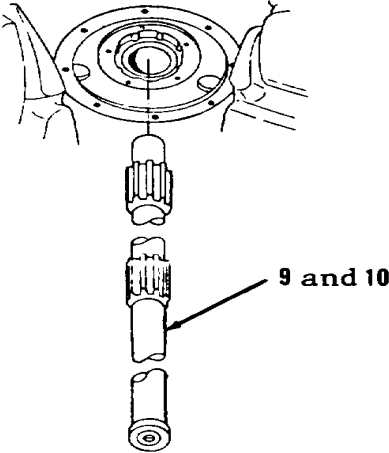

Figure 5-121.
- 9. Remove items 9 and 10 as an assembly (Figure 5-121).